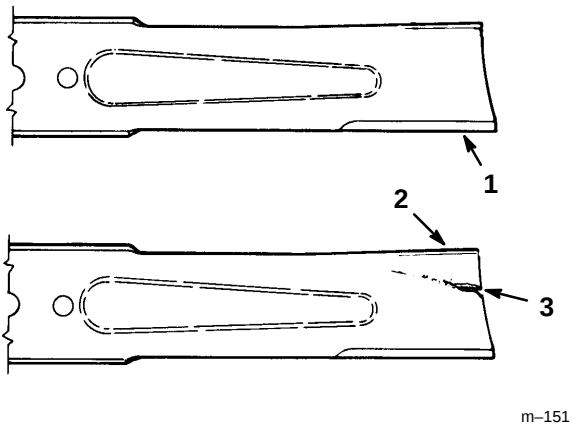

Figure 16
1. Inspect the cutting edges (Fig 16). If the edges are not sharp or have nicks, remove and sharpen the blades. Refer to Sharpening the Blades on page 35.
2. Inspect the blades, especially the curved area (Fig. 16). If you notice any damage, wear, or a slot forming in this area (item 3 in Fig. 16), immediately install a new blade.